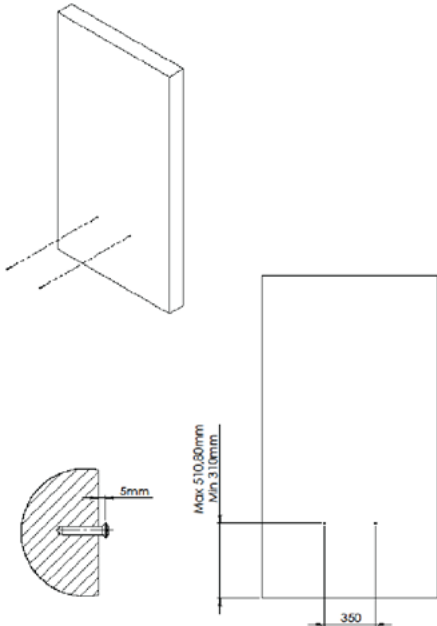

Figure 3.3: Installing bolts for middle mounting holes
**3.2.2** Turn the bolts in the middle fixing holes of the wall leaving them unturned by 5 mm (figure 3.3).